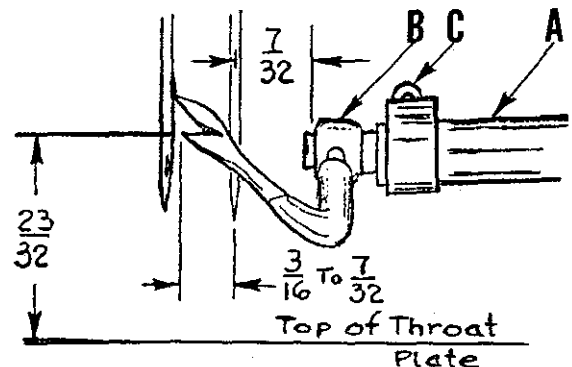

Fig. 6
If spreader gauge is not available to set the spreader, turn the handwheel in the operating direction until the spreader bar (A, Fig. 6) is in the extreme left position. Set the spreader holder (B) in the spreader bar so the left end of the holder is $\frac{7}{32}$ inch to the right of the center of the right hand needle (Fig. 6), and tighten collar screw (C). Looper gauge 21225- $\frac{7}{32}$ can be used for this setting. **DO NOT CHANGE THIS LATERAL SETTING OF THE HOLDER.**
With the spreader in this position, rotate the spreader about its shank so the point closest to the operator is between $\frac{3}{16}$ and $\frac{7}{32}$ inch to the left of the center of the needle and approximately $\frac{23}{32}$ inch above the throat plate (Fig. 6). Turn the handwheel in the operating direction and check clearance between the bottom point of the spreader and the lower looper. The spreader point should cross the top of the looper to the left as close as possible to the eye and to the back of the looper without touching it.